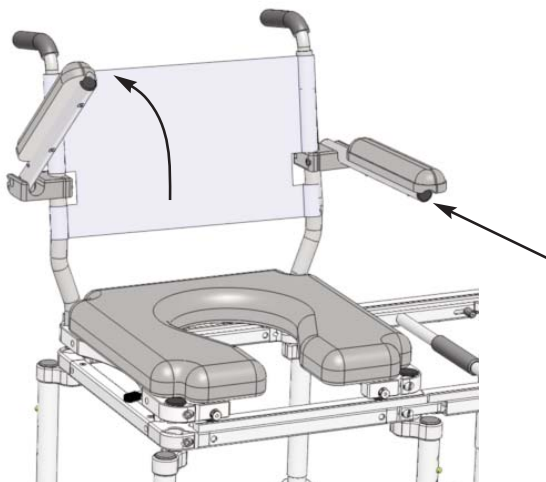

Figure 6
- 1) Loosen the socket head cap screws on the arm clamps, raise/lower the arms accordingly, then re-tighten the socket head cap screws (Refer to Figure 6). For safety purposes, the cantilever arms lock in the down position. To switch the arms to the up position, simply push the arms toward the back of the chair (releasing the locking mechanism) and lift up